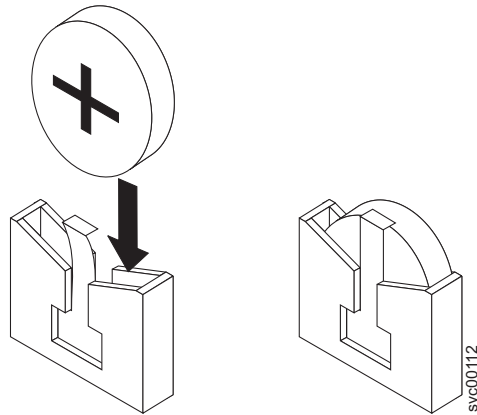

Figure 117. CMOS battery socket
- c. Slide the battery down until it snaps into place, as shown in Figure 117.